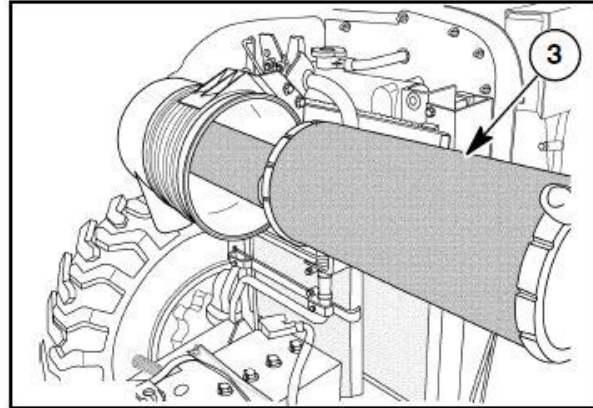

Figure 3-14
1. Pull the primary element (3) in Figure 3-14, from the canister. Clean any loose dirt from the canister and inspect the end of the canister for dirt, which may prevent the new element from sealing properly.